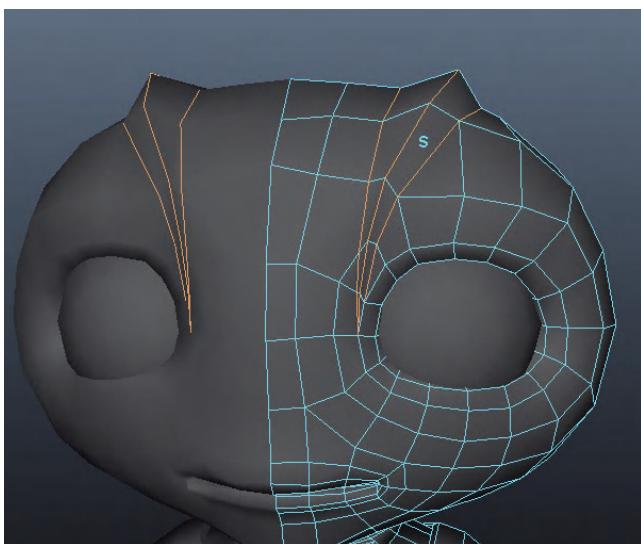

FIG. 4.82 Visually highlighting the head ridges with hardened edges.
Step 101: Harden edges along head ridges (Fig. 4.82).